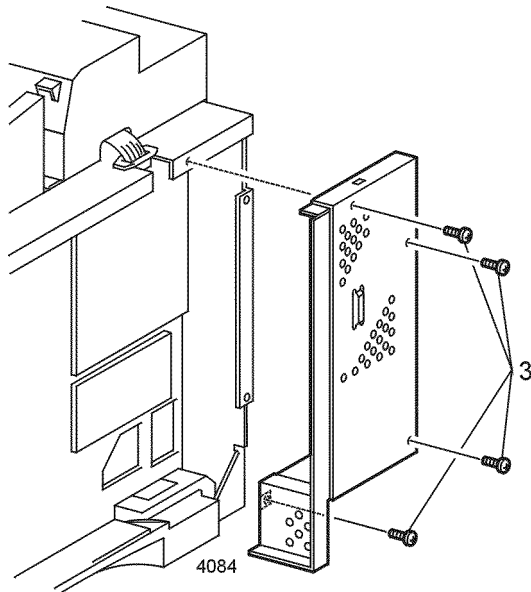

Figure 2 Print Engine Controller PWB Cover
3. Remove the four screws that secure the MCU Cover (Figure 2). Remove the cover.